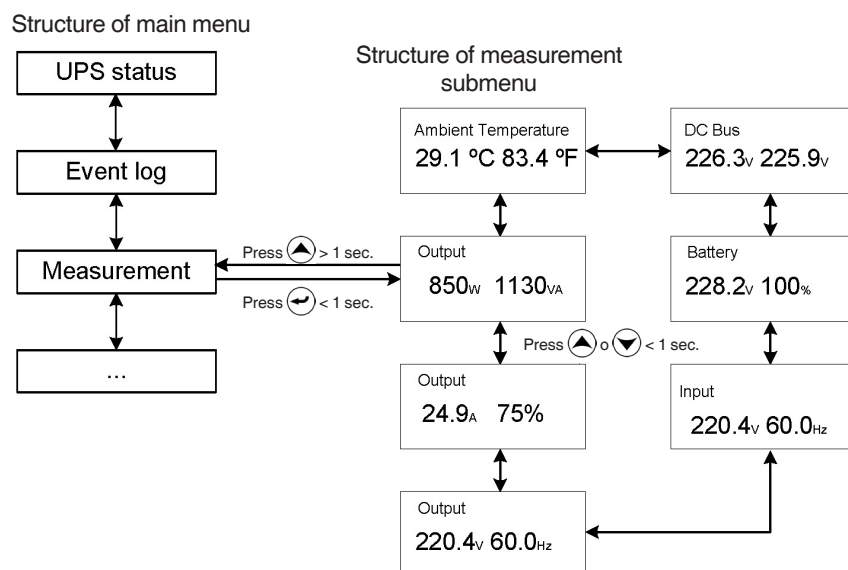

Fig. 33. Measurement submenu screen.
- When pressing over the key \odot for less than 1 sec. from "Measurement" submenu, it is accessed to the measurements structure (see figure 33).